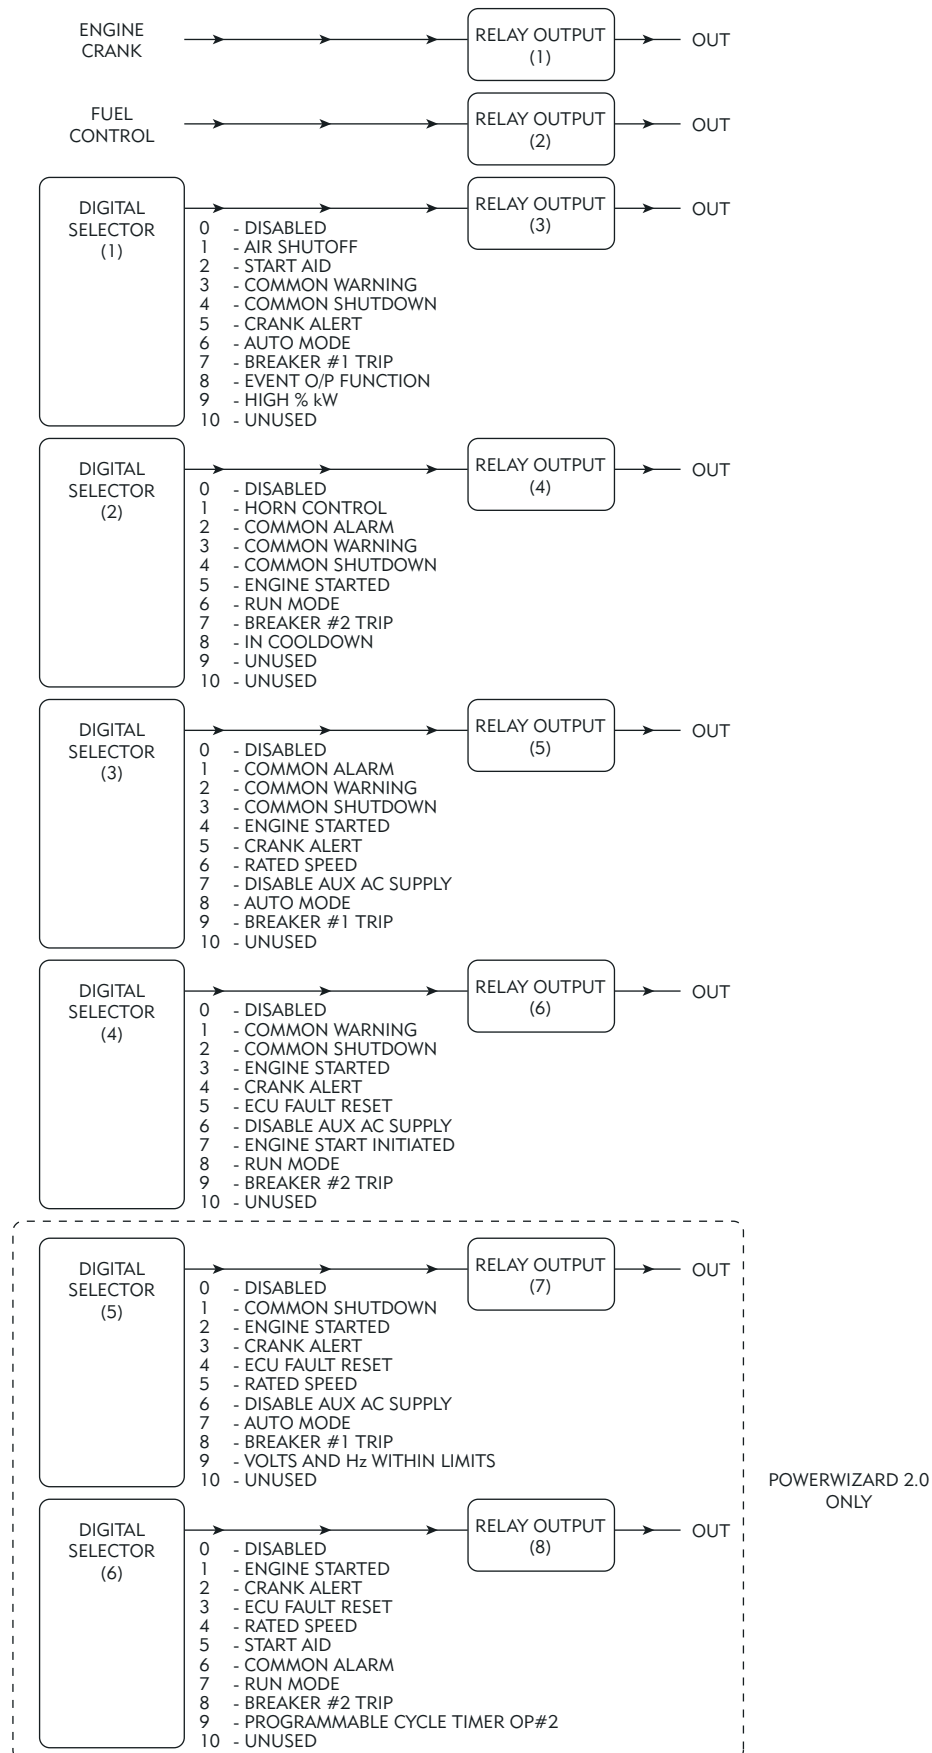

Figure 22: Digital Selectors and Relay Outputs
4. Use the Scroll Up key and the Scroll Down key in order to change to the value corresponding to the desired condition. (For a list of the digital selector conditions and how these correspond to values see Figure 22).